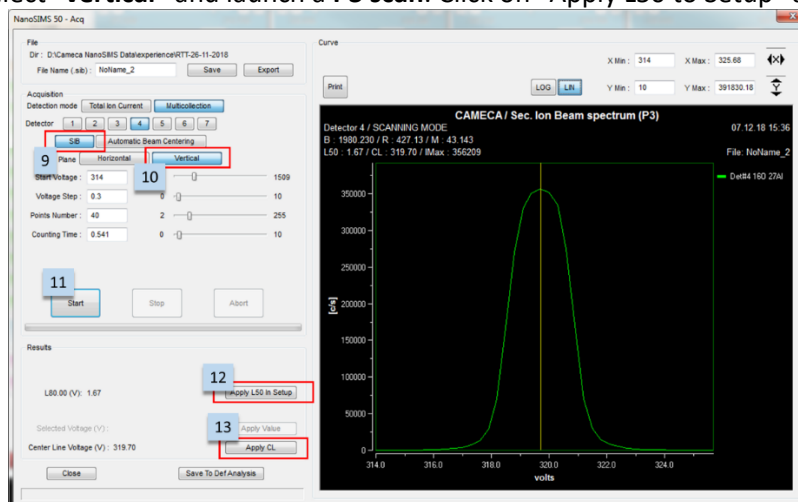

Figure 409: P3 centering (Secondary Ion Beam – vertical)
- f. Click on **SIB** (Figure 409) to run a first P3 scan to determine proper ranges and parameters: select **“vertical”** and launch a **P3 scan**. Click on **“Apply L50 to Setup”** and **“Apply CL”**.